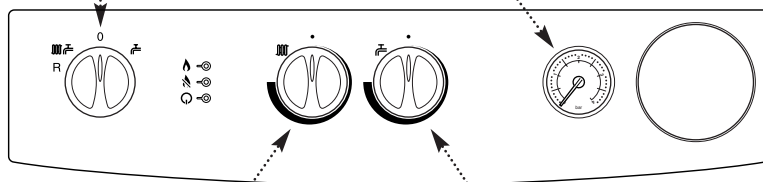

Fig. 41
10. If at any time during commissioning it is required to terminate a particular cycle, turn the selector to the OFF position and then back to either (R) or (OFF) (Fig. 41).